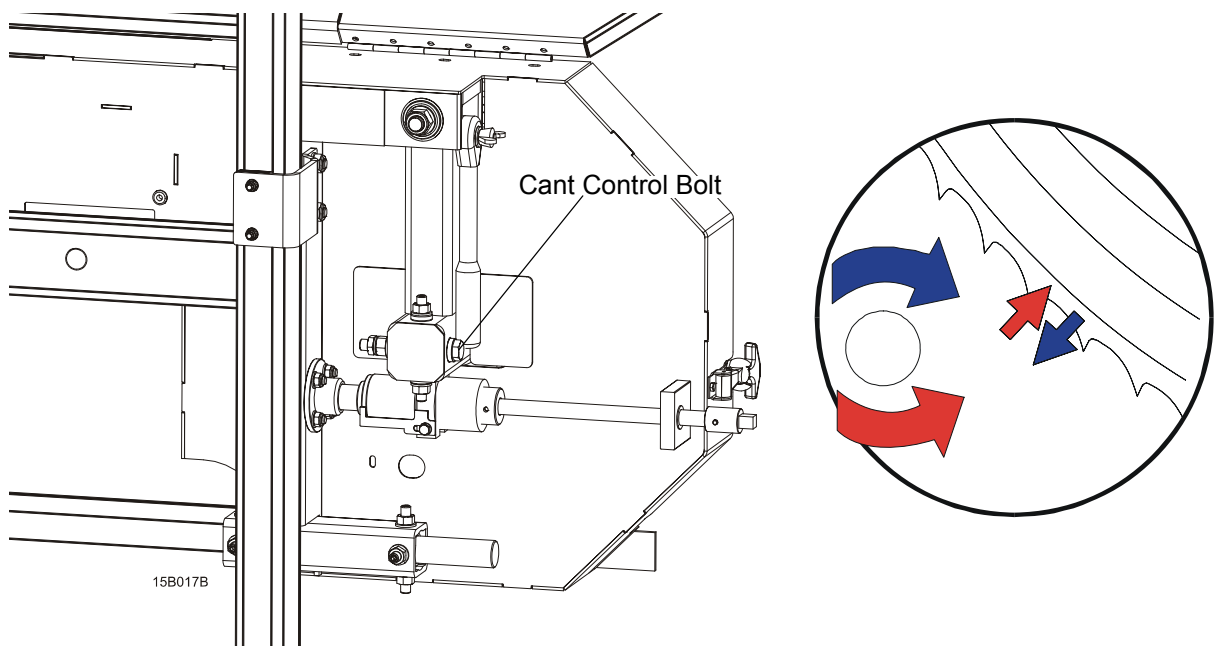

FIG. 3-8
**See Figure 3-8.** To adjust where the blade travels on the blade wheels, use the cant control bolt.